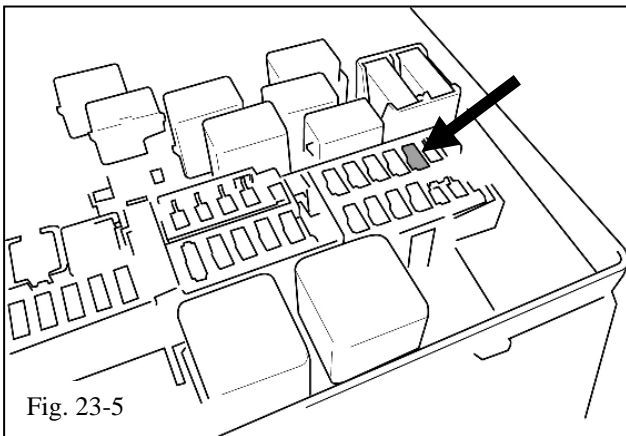
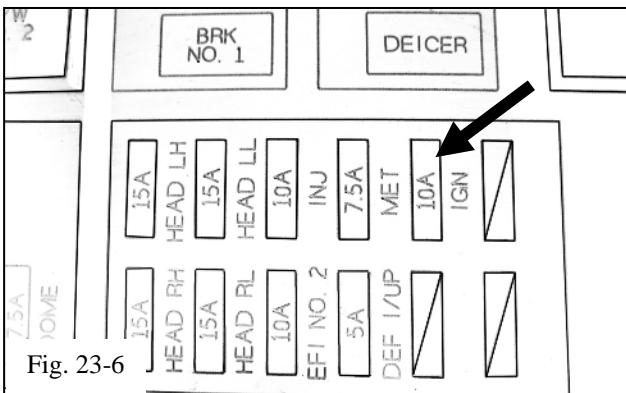

Fig. 23-5
Fig. 23-6
- (g) Remove the 10 amp ignition fuse (Fig. 23-5 & Fig. 23-6).